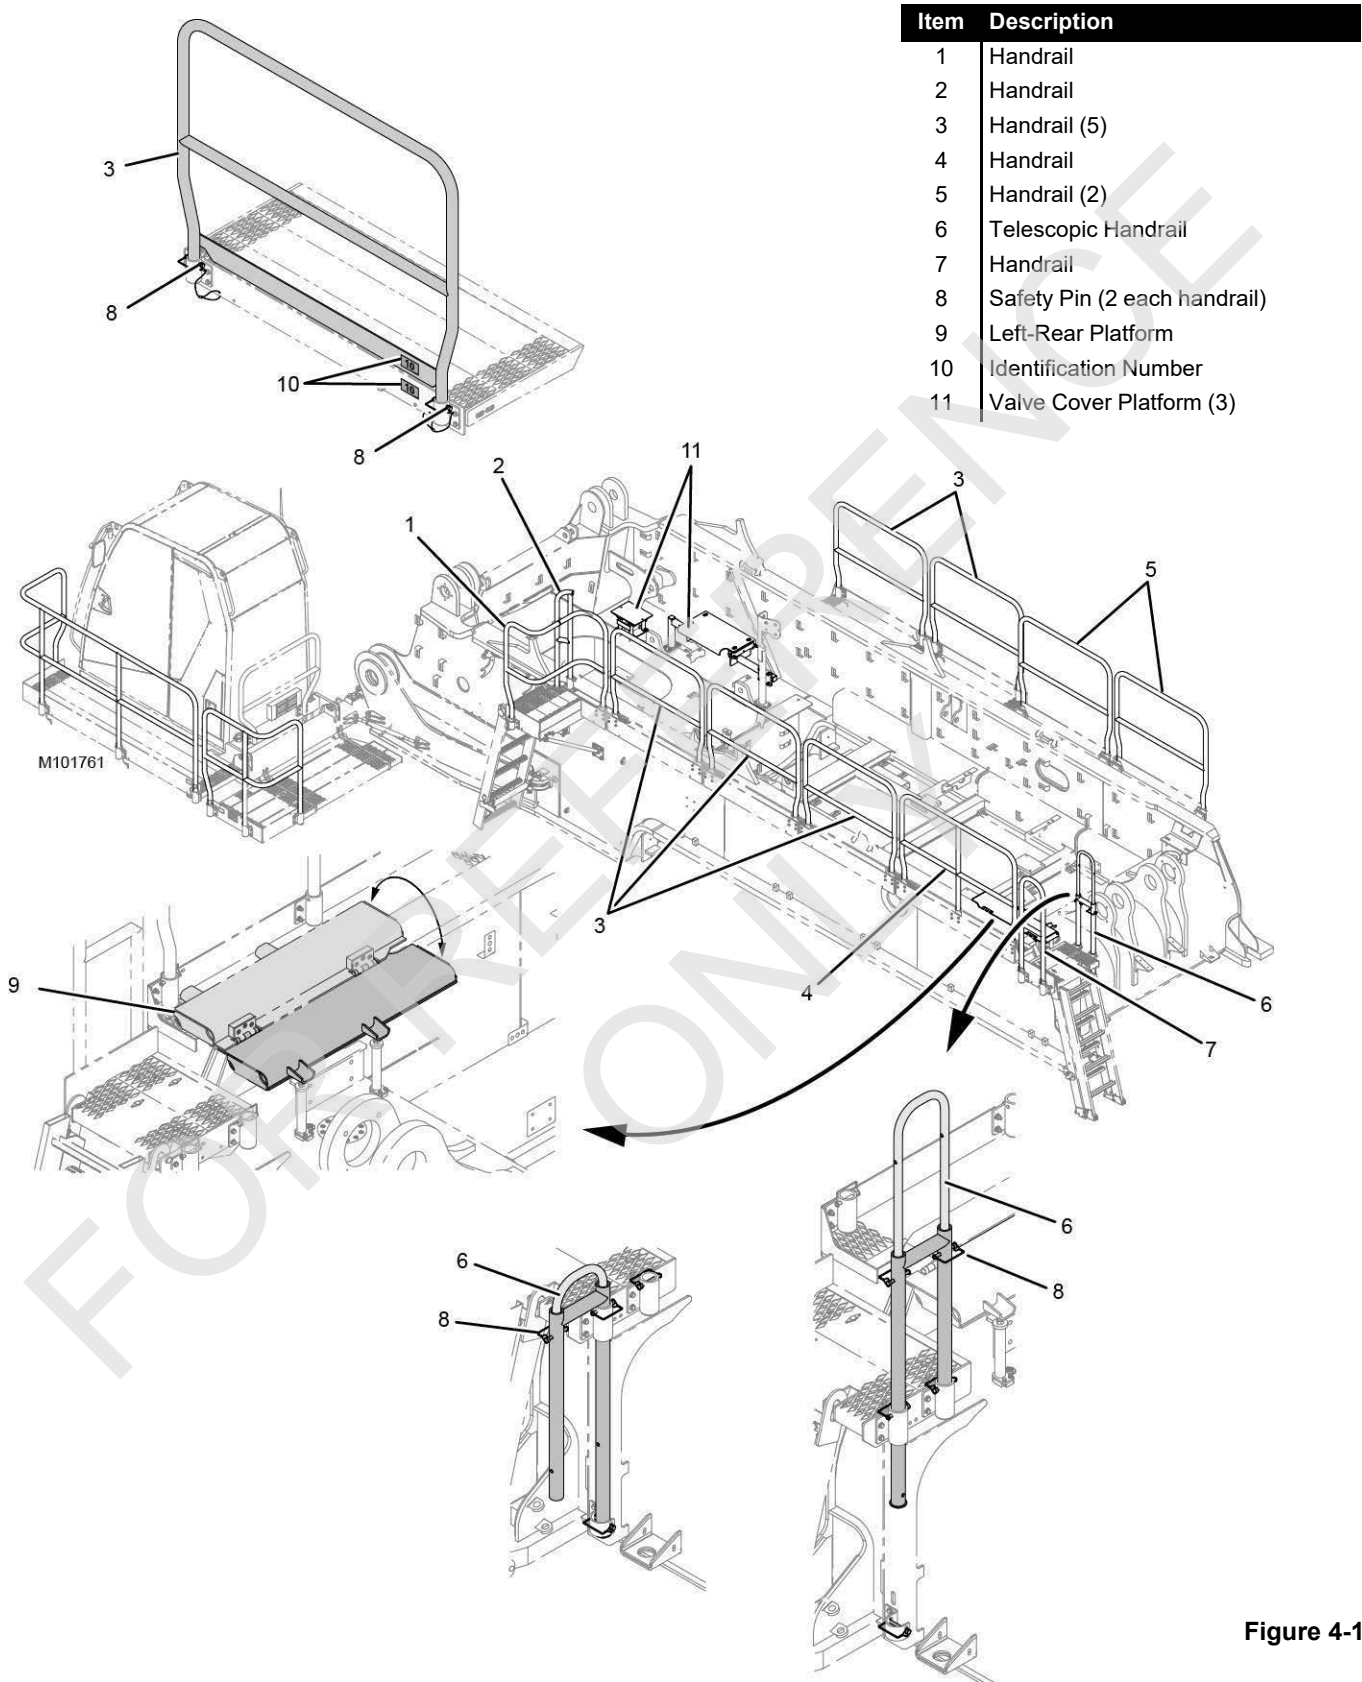

Figure 4-19
See Figure 4-19 for the following procedure.
1. Rotate the left-rear platform (9, Figure 4-19) from the stored position to the working position.
2. Extend the handrail (6, Figure 4-19) from the stored position and pin it in the working position.
Three valve cover platforms (11, Figure 4-19) are located in the rotating bed.